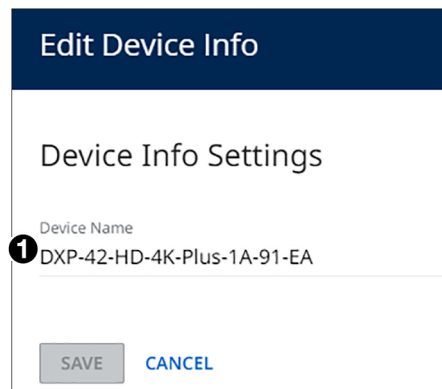

Figure 102. Device Info Settings Dialog Box
1. Click on the default name in the **Device Name** field (see figure 102, **1**). A cursor appears. (The default name is the model name followed by -xx-xx-xx, where xx-xx-xx are the last six characters of the unit MAC address.)